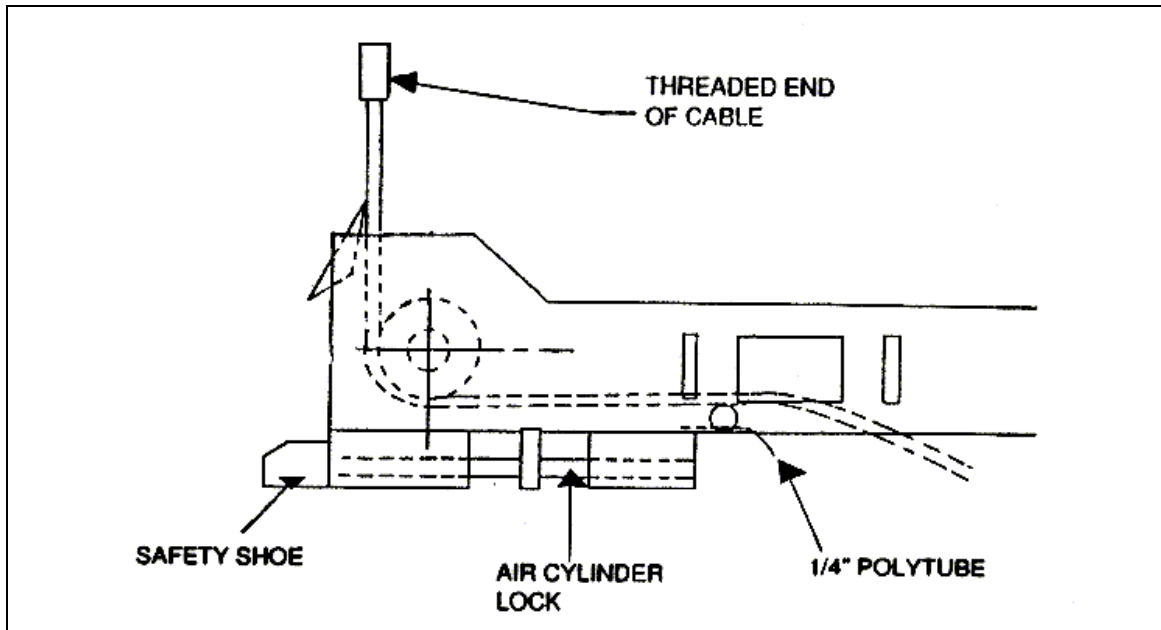
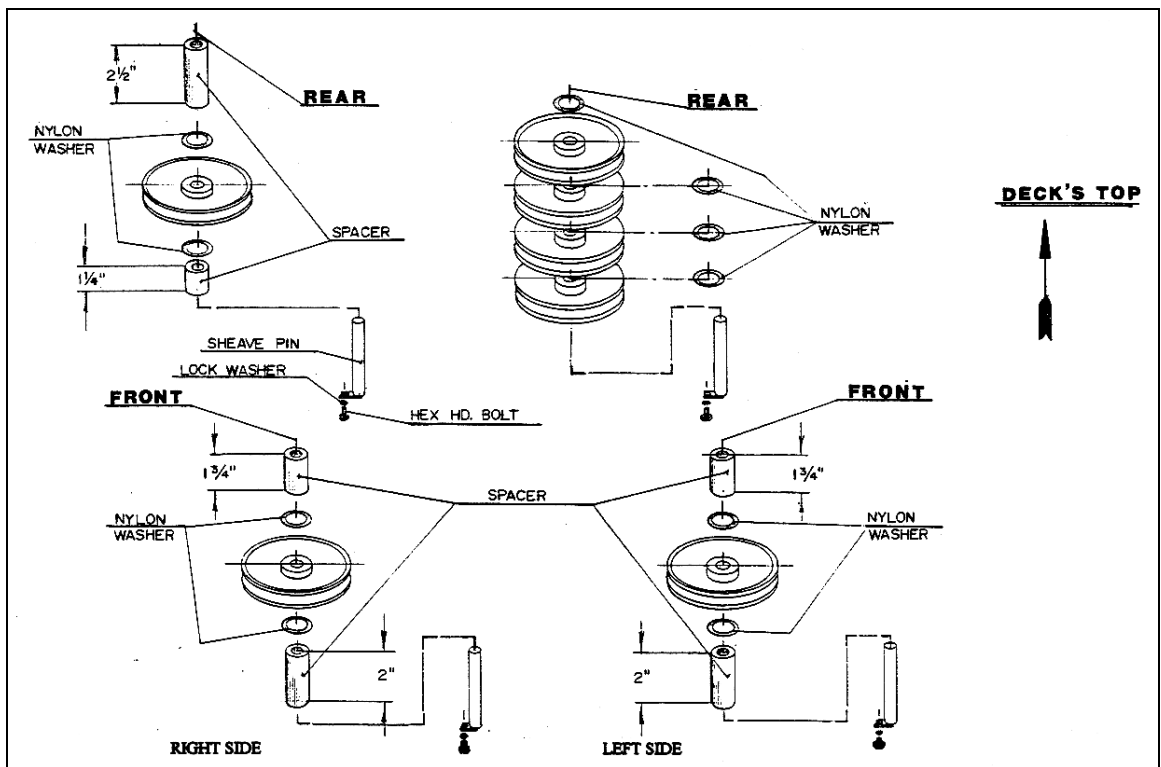

Figure 4. Typical cable routing in crossmember assembly
Figure 5. Sheaves installation
- Before beginning cable routing, refer to Figure 4, Cable and Routing Diagram.
- Begin routing cable # 4 (part # 2-1507) starting at the very top of the right side of the front crossmember assembly using the non threaded end of the cable as shown in Figure 4. Place the non-threaded end of the cable at the opening of the front-right crossmember.
- Route cable # 1 (part # 2-1504) starting at the very top of the left side of the front crossmember assembly using the non-threaded end of the cable as described in Figure 4. Place the non-threaded end of the cable at the opening of the front-left crossmember.
Refer to Figure 4, Figure 5, and Section 8.5
- Refer to Figure 4, Cable and Routing Diagram.
- Check for correct arrangement of spacers on sheave stacks, Figure 5.
- Install the sheave into the front of the right deck as shown in Figure 5 and Section 8.5.
- Begin routing cable #3 (Part # 2-1506) from the right rear crossmember assembly using the non threaded end of the cable as described in Figure 4, and out through the crossmember assembly to the opening under the rear of the right deck.
- Install the sheave into the rear of the right deck as shown in Section 8.5, and Figure 5.
- Route cable #2 (Part # 2-1505) from the left side of the rear crossmember assembly using the non threaded end of the cable as described in Figure 4, and out through the crossmember assembly to the opening under the rear of the left deck.
- Install the sheave into the front of the left deck as shown in Section 8.5, and Figure 5.
- Install the sheave stack assembly at the rear of the left deck as shown in Section 8.5, and Figure 5, Sheave Installation.